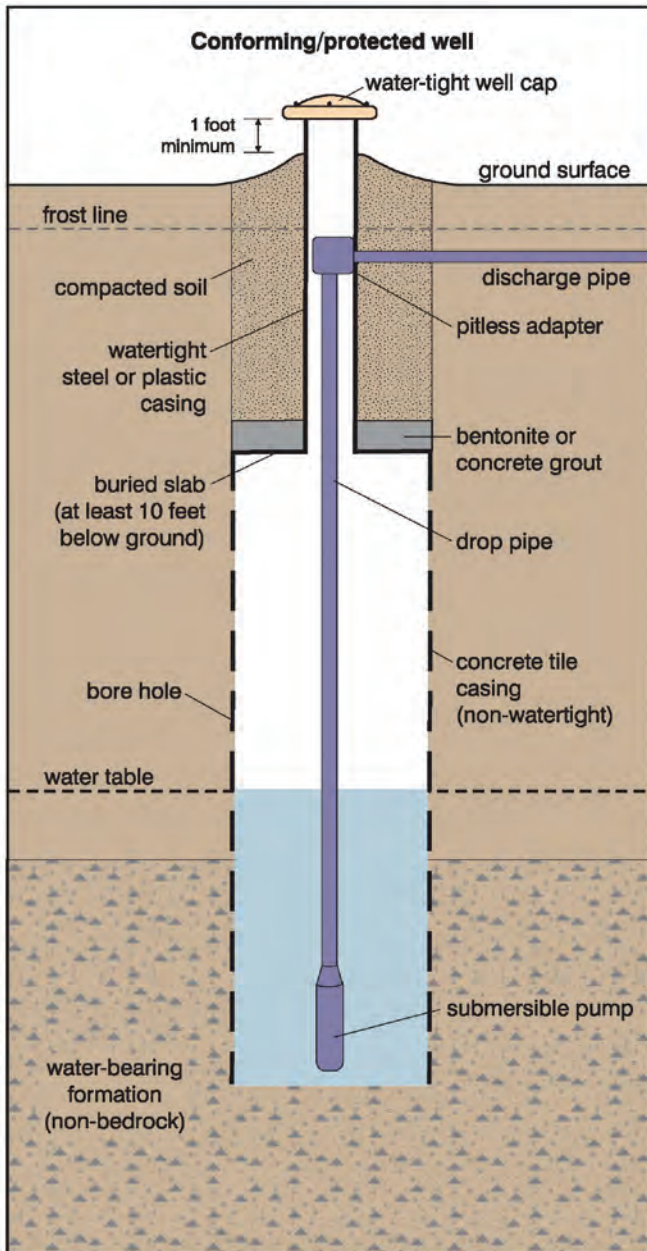

Figure 3. Buried slab design for bored well.
- *Large-diameter bored or augered wells* (Class 1 wells) usually found in western, southern, and central Iowa draw water from either small sand deposits or from where the loess and glacial till meet. Older, large-diameter, hand dug wells were usually cased with brick or field stone. Bored or augered wells were constructed with clay tile or concrete tile. These older, large-diameter wells that do not utilize a buried slab often produce water that is high in coliform bacteria and nitrate. Figure 3 shows a large-diameter well that uses buried-slab construction as required by code.